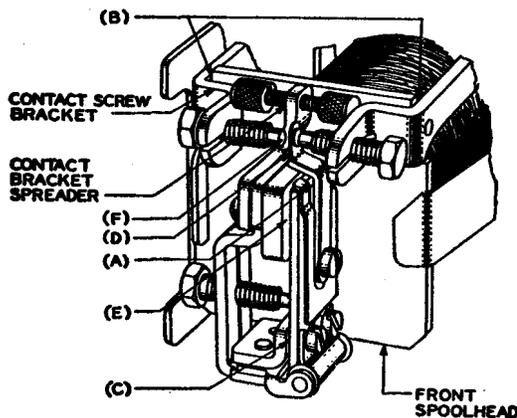

Fig. 1 — Relay Equipped With Contact Bracket Spreader
1.01 **Clearance Between Contact Spring and Retractable Spring:** Fig. 1(A) — Contact spring and its support shall not touch sides of slot in retractile spring in operated or unoperated position of armature.
(b) Relays with contact bracket spreader, Fig. 1(B):
1.05 **Base Gap (Readjust Only):** Fig. 1(C) — Min 0.009 inch, Max 0.011 inch. No. 74D gauge.
(a) Fig. 1(D): Min 3, Max 7 grams against spring support. No. 70F gauge. For "test" the requirement is met if contact spring rests on support at least within 1/16 inch of extreme end of support.
1.07 **Armature Travel:** Fig. 1(E) — Min 0.009 inch, Max 0.011 inch. No. 74D gauge.
1.08 **Contact Separation:** Fig. 1(F) — Min 0.003 inch, Max 0.005 inch. No. 74D gauge.